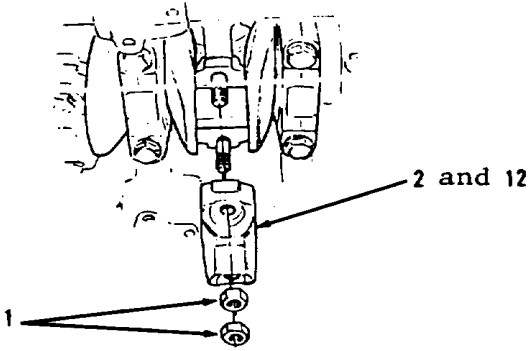

Figure 13-40.
- 5. Remove two nuts (1) and items 2 and 12 as an assembly (Figure 13-40).